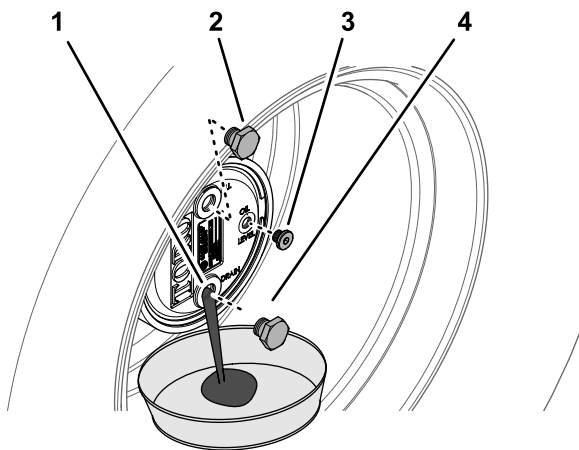

Figure 101
2. Remove the fill plug at the 12 o'clock position and the check plug at the 3 o'clock position (Figure 101).
3. Place a drain pan under the planetary hub, remove the drain plug at the 6 o'clock position, and allow the oil to fully drain (Figure 101).
5. Install the drain plug into the drain hole of the planetary housing (Figure 101).